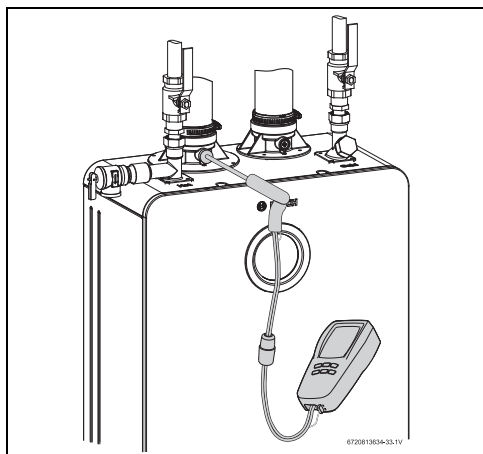

Fig. 62 Measuring port
- ▶ Remove the screw from the flue adaptor on the left side of the appliance, as seen in fig. 62.